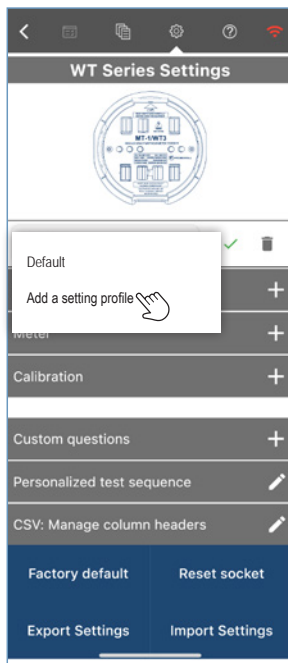

Figure 1
- Create a new profile:** Tap the drop-down menu and select "Add a setting profile", input a relevant name and tap done, the profile will be created with all the current fields values (Figure 1).